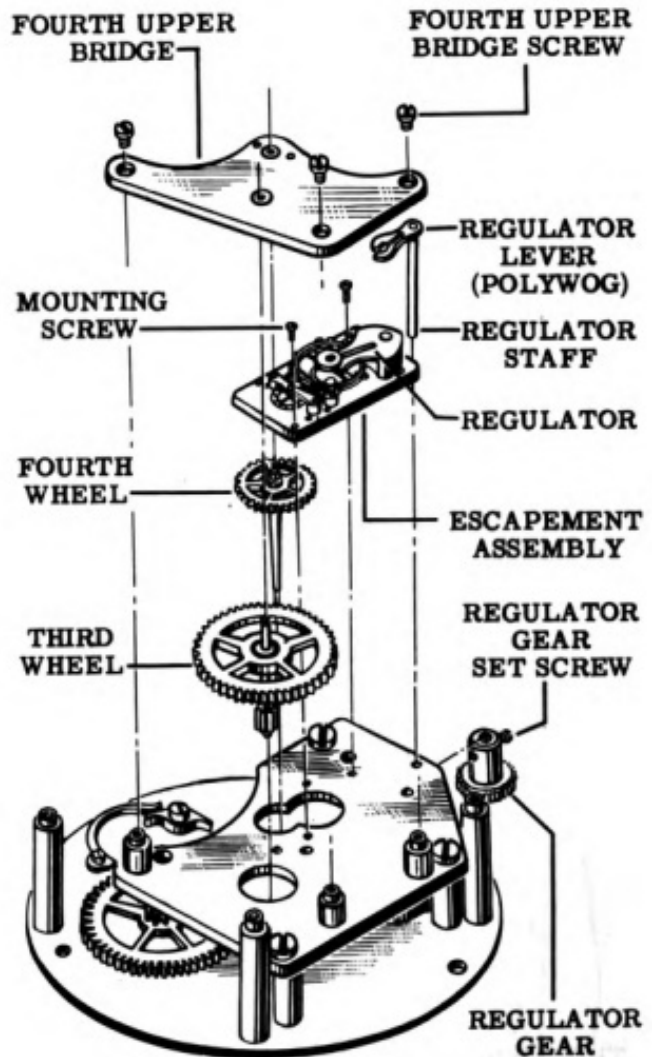

Figure 60
9. Place the third wheel in position. See Fig. 60. Oil the staff of the fourth wheel (see
13. Place the regulator gear in position with the stop stud exactly in the center of the slot. Place the regulator staff assembly in place through the regulator gear, and hold aside the thrust spring so that the staff end can go through its hole in the front plate. The polywog should grasp the regulator in its mid-position. Tighten the regulator gear set screw. Refer to Fig. 60.